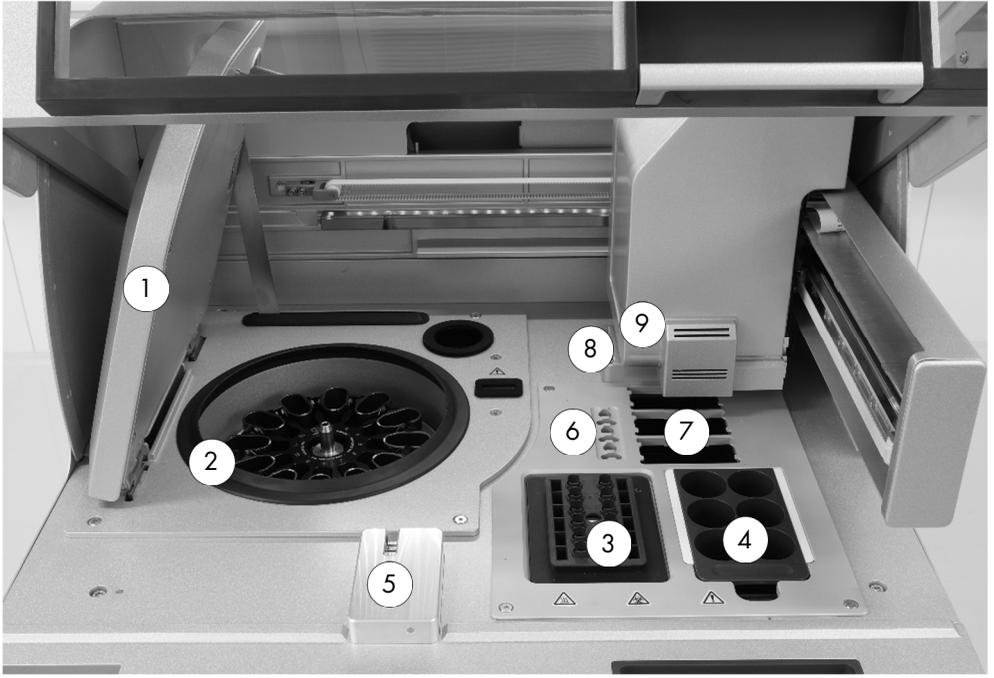
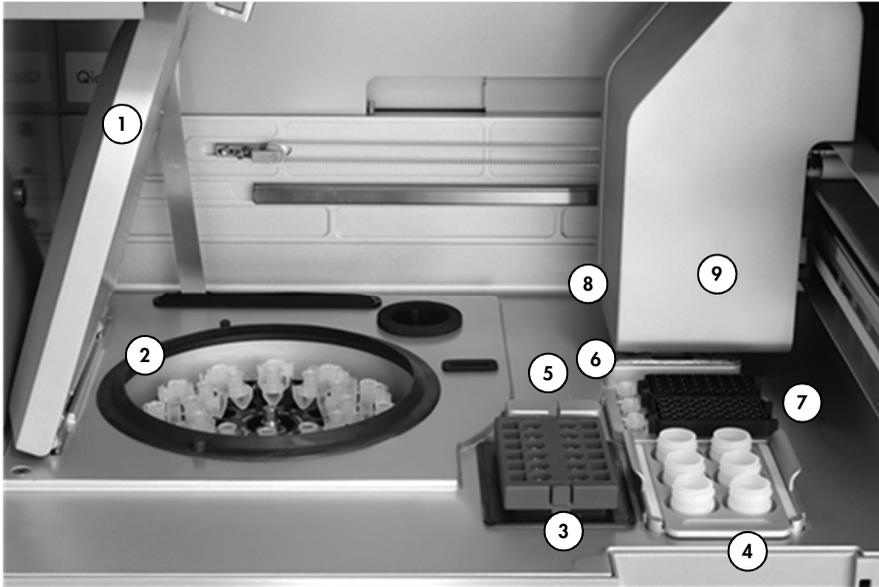

Figure 21. Internal view of the QIAcube Connect MDx.
Figure 22. Internal view of the QIAcube.
Place 2 tip racks filled with Filter-Tips 1000 μ l onto the QIAcube instrument (see Figures 21 and 22, pages 47 and 48). Refill racks with tips when necessary.
Remove any processing tubes (PT) left in the microcentrifuge tube slots from previous runs (QIAcube Connect MDx: see Figure 21, page 47, QIAcube: see Figure 22, page 48). Fill 3 processing tubes (PT) with the amount of reagents given in Table 5 according to the number of samples in the run.